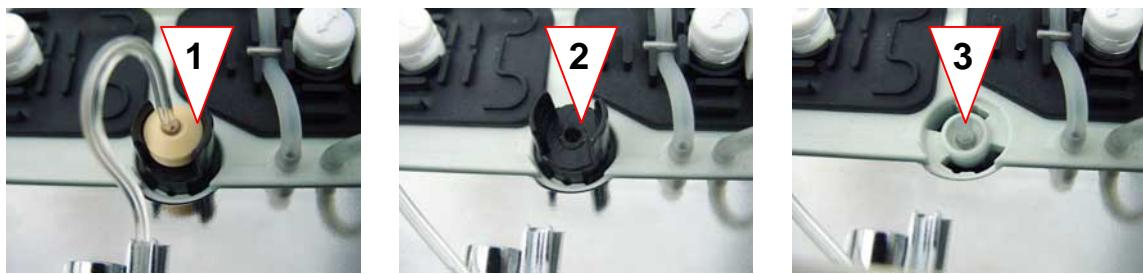

Fig. 3-77 Tubing of the reference electrode connector
2. Pull off the reference electrode connector (see Fig. 3-77, 1).
3. Remove the connector piece by turning left (see Fig. 3-77, 2).
4. Pull out the tube (see Fig. 3-77, 3).